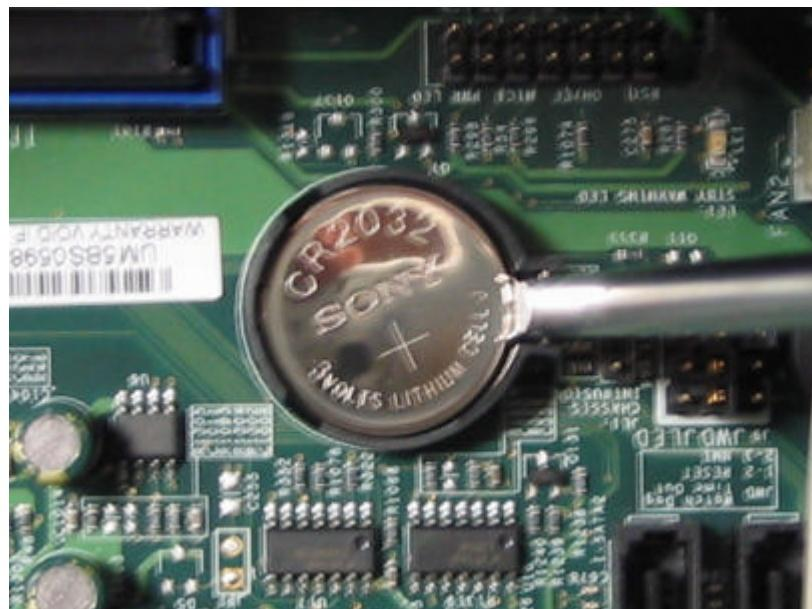

Figure 12: Replacing the CMOS Battery
The battery can be found using Figure 12. It is located on the bottom left hand side of the Motherboard. To replace the battery, carry out the following:
8. GENTLY push a flathead screwdriver as shown in Figure 12.